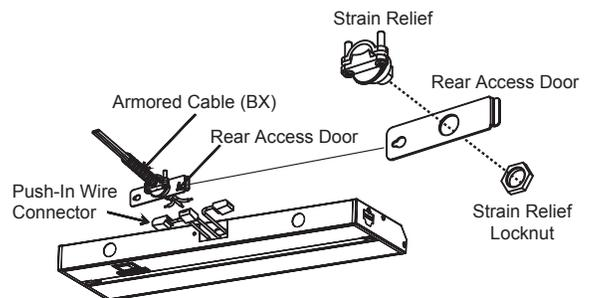

Figure 5
3. Attach the supplied strain relief by inserting the threaded end (from outside the luminaire) through the knock-out. Secure the strain relief to the luminaire's chassis by tightening the fastener (from inside the luminaire). (Fig. 5)